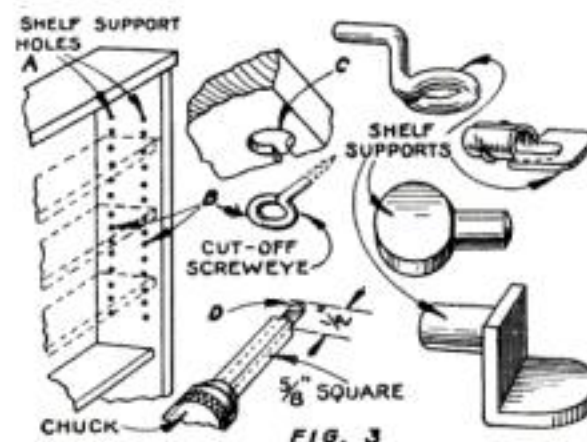

FIG. 3
1. The common method is to bore a series of holes to receive shelf supports. These are placed as shown at A, Fig. 3. Several such supports are also shown.